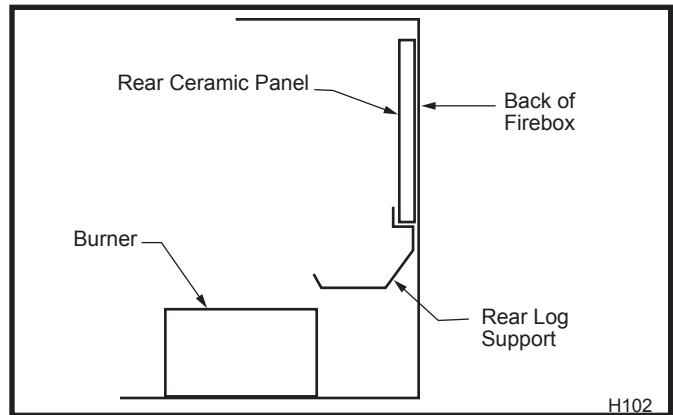

Fig. 79 Rear ceramic panel placement.
3. Place rear ceramic panel in back of unit. (Fig. 79)